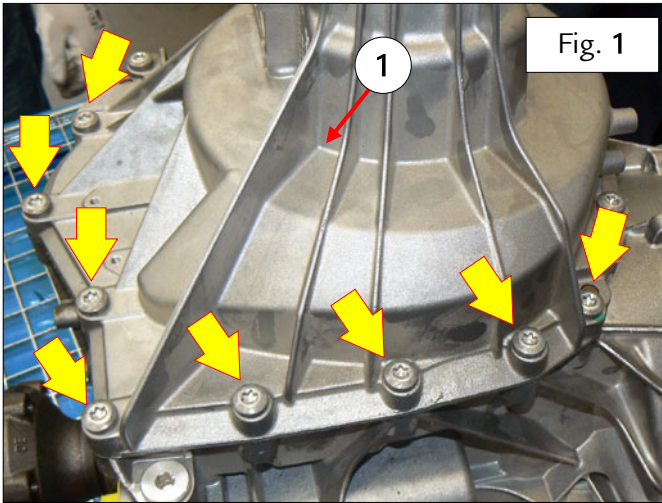

Fig. 1
- Using a lint-free cloth and heptane, thoroughly clean the area surrounding the **GL oil inlet orifices** and fit seal plugs in the indicated positions – Fig. 1.
- Undo the indicated screws fastening the connector casing (1) – Fig. 1, 2.